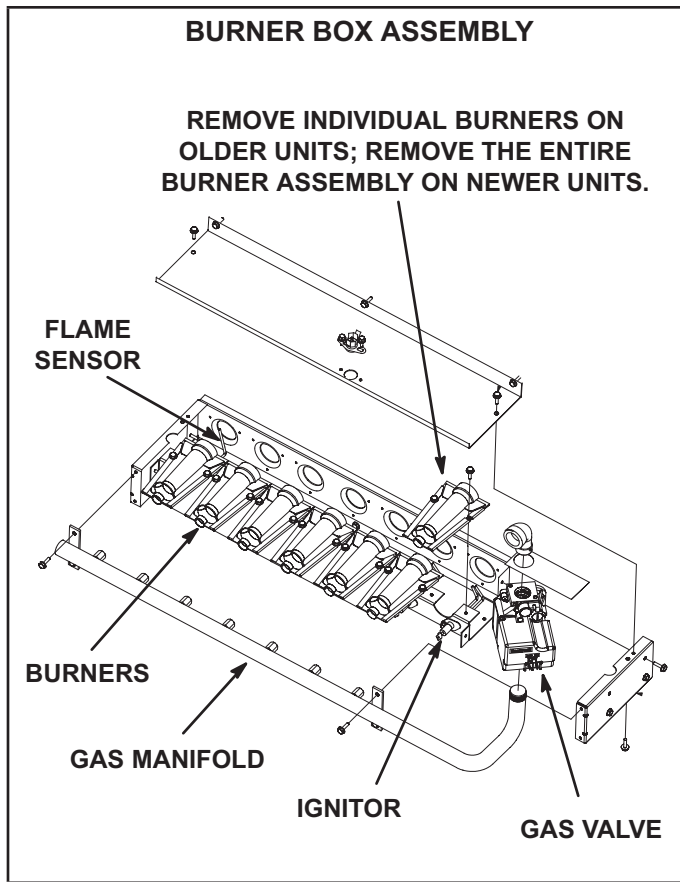

FIGURE 38
- 4 - Remove screws securing burners to burner support and lift the individual burners or the entire burner assembly from the orifices. See FIGURE 38. Clean as necessary.